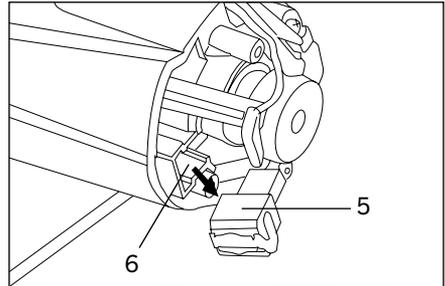

Fig. 21
4. Remove the carbon brush holder (5) with the carbon brush from the motor housing (6) (Fig.21).